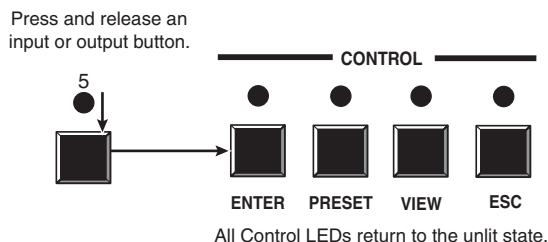

Figure 3-66 — Exit Serial Port Configuration mode
4. Press and release an input or output button to exit the *Serial Port Configuration* mode (figure 3-66).